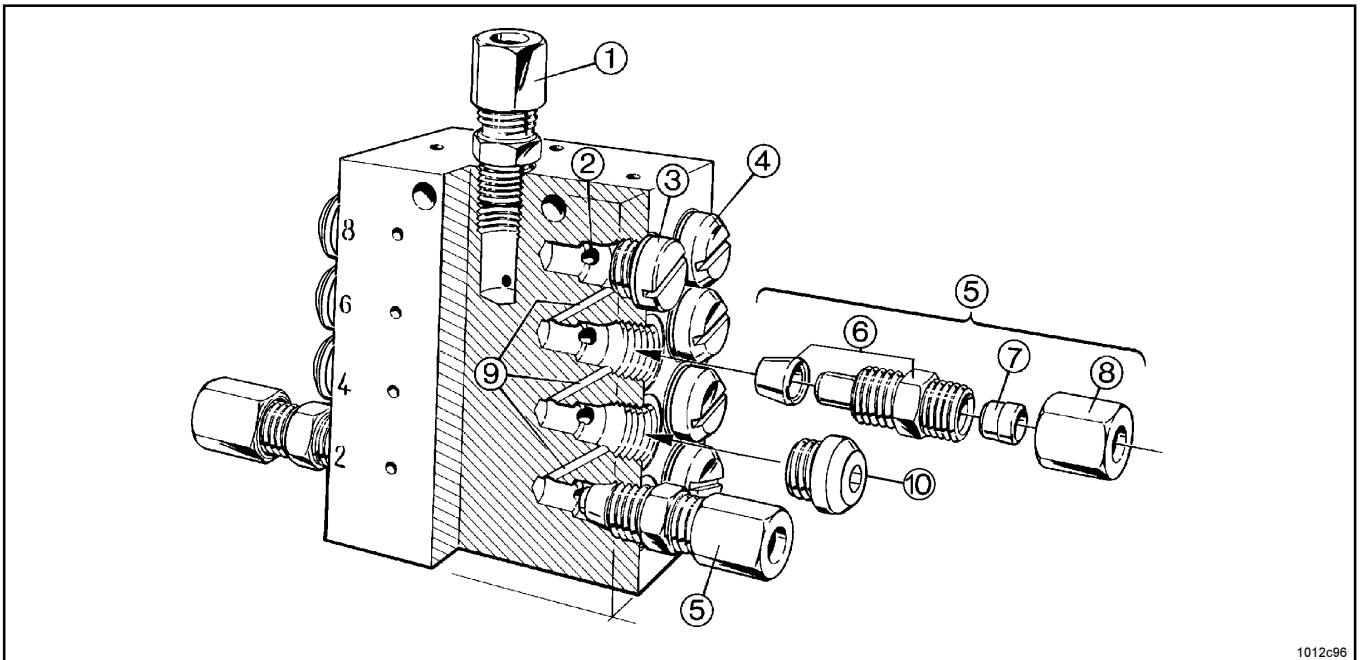
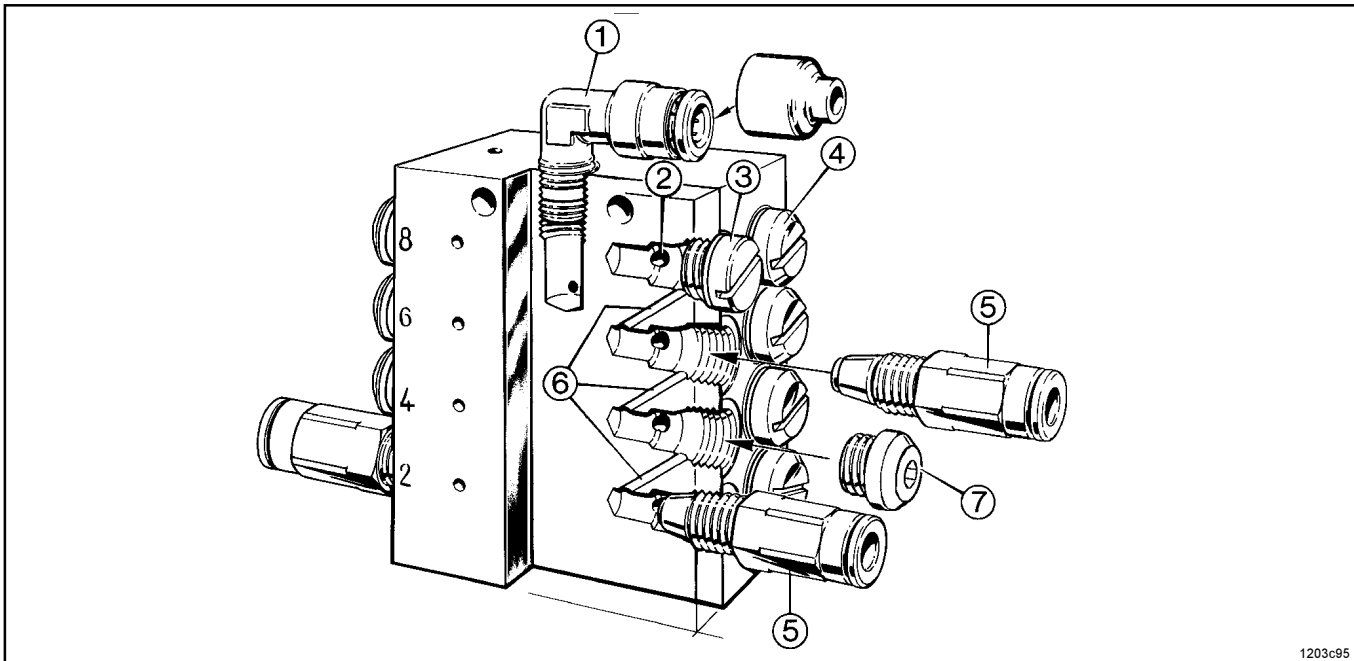

Fig. 18 - Install the outlet fittings and closure plugs in accordance with the dosage
Fig. 19 - Install the push-in type outlet fittings and the closure plugs in accordance with the dosage
- 10 - New closure plug (M 10 x 1), outlet borehole with hex. socket head and sealing edge, replacement for pos. 3
- Install an outlet fitting assembly 5 (M 10x1) in each outlet borehole which will be used. Refer to Fig. 18, 19, 20.
*Note: Never use closure plug 12 (Fig. 18) or 7 (Fig.19, 20) as a piston closure plug 4 (G 1/8) on older models of metering devices.*
- **Never use** closure plug 12 (Fig. 18) or 7 (Fig. 19, 20) **as a piston closure plug 4.**
**Important:** Always use valve body (Fig. 18) in conjunction with clamping ring.
- Clamping ring (Fig. 18) closes the junction channels 9 to the other outlet channels.